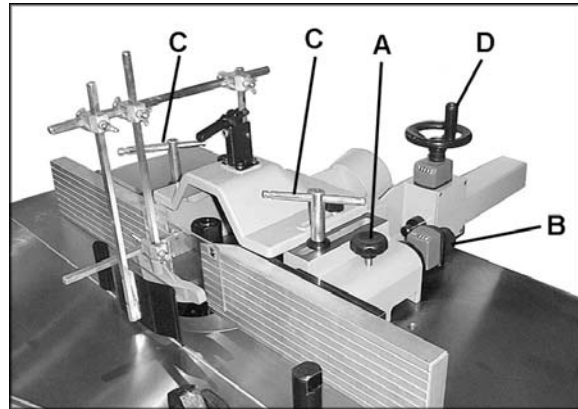

Figure 23
2. The right fence plate (infeed) can be moved independently, in or out, depending on the type of shaping operation that is being performed. To move the right fence plate in or out, loosen the locking knob (A, Figure 23) and turn the adjusting knob (B, Figure 23). Precise movements are possible by using the dial indicator beneath the knob. When finished, re-tighten locking knob (A, Figure 23).
3. The entire fence assembly can be rapidly positioned on the table by slightly loosening both locking handles (C, Figure 23) and moving the fence assembly to desired position by rotating the handwheel (D, Figure 23). Use the dial indicator for more precise measurement. Re-tighten the handles (C, Figure 23) when finished.